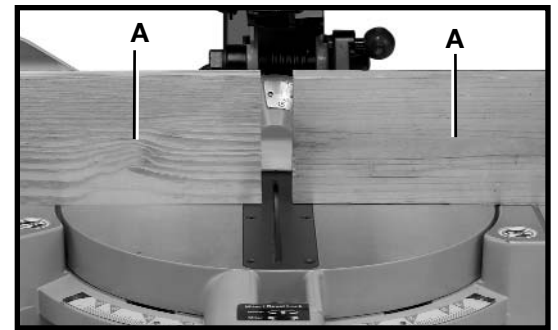

Fig. 29
**WARNING:** When performing multiple or repetitive cut-off operations that result in small cut-off pieces, one inch or less, it is possible for the saw blade to catch the cut-off pieces and project them out of the machine or into the blade guard and housing, possibly causing damage or injury. To limit the possibility of personal injury or blade guard damage, an auxiliary wood fence can be mounted to your saw (Fig. 29).